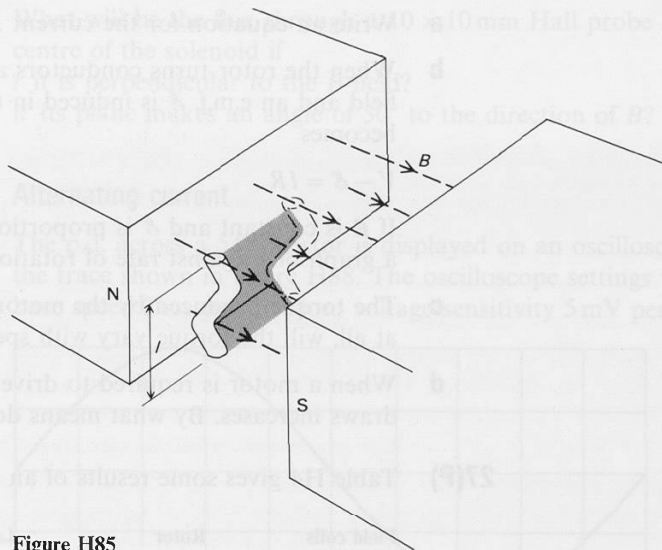

Figure H85
- b (*Harder*) Suppose that the rod were a zig-zag shape, and its length were larger than the distance l between its ends, as shown in figure H85. Would the induced e.m.f. be larger than $\mathcal{E} = Blv$?